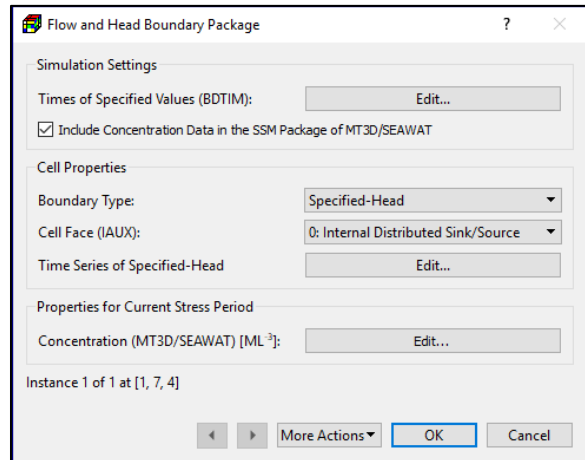
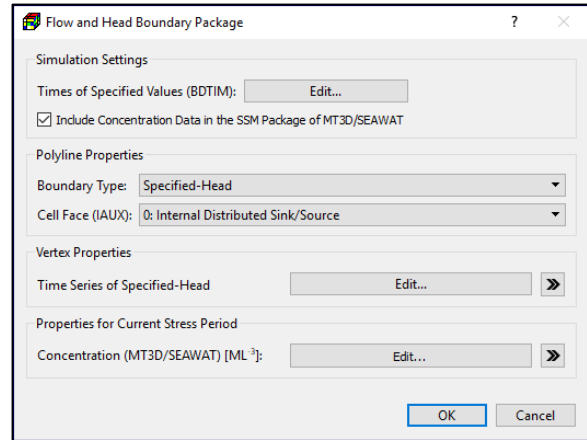
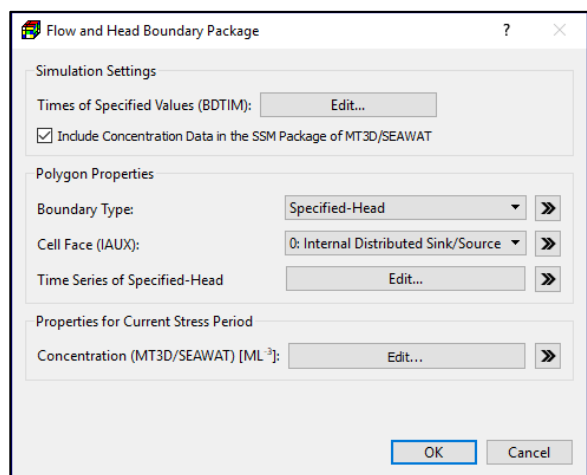

Figure 54. The Flow and Head Boundary Package dialog box for specifying cell properties
Figure 56. The Flow and Head Boundary Package dialog box for specifying vertex
Figure 57. The Flow and Head Boundary Package for specifying polygon properties
1. **All input methods:** The data entry dialog boxes (Figure 54, Figure 56, Figure 57) of all input methods include a Simulation Settings group that contains the following options:
2. **Cell-by-cell input method:** Figure 54 shows the dialog box for specifying one or more FHB1 instances to a model cell.
3. **Polyline input method:** Figure 56 shows the dialog box that is used to specify vertex/polyline properties.
4. **Polygon input method:** Figure 57 shows the dialog box that is used to specify polygon properties. These data may be applied to model cells following the rules described in Section 3.4.2.3.